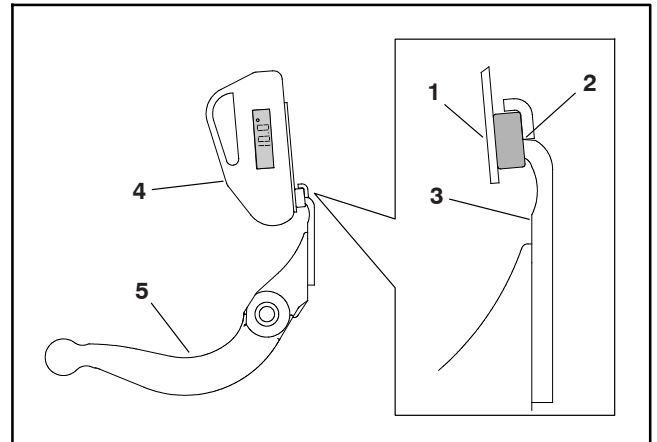

Figure 20
3. Remove the angle indicator and place the angle-indicator mount on the edge of the bedknife so the face of the magnet is flat against the top of the bedknife (Fig. 20).
4. Place the angle indicator on the mount with the digital display facing you as shown (Fig. 20). The angle displayed on the indicator is the current bedknife top angle. The angle measured should be between  $8^{\circ}$  and  $12^{\circ}$ .